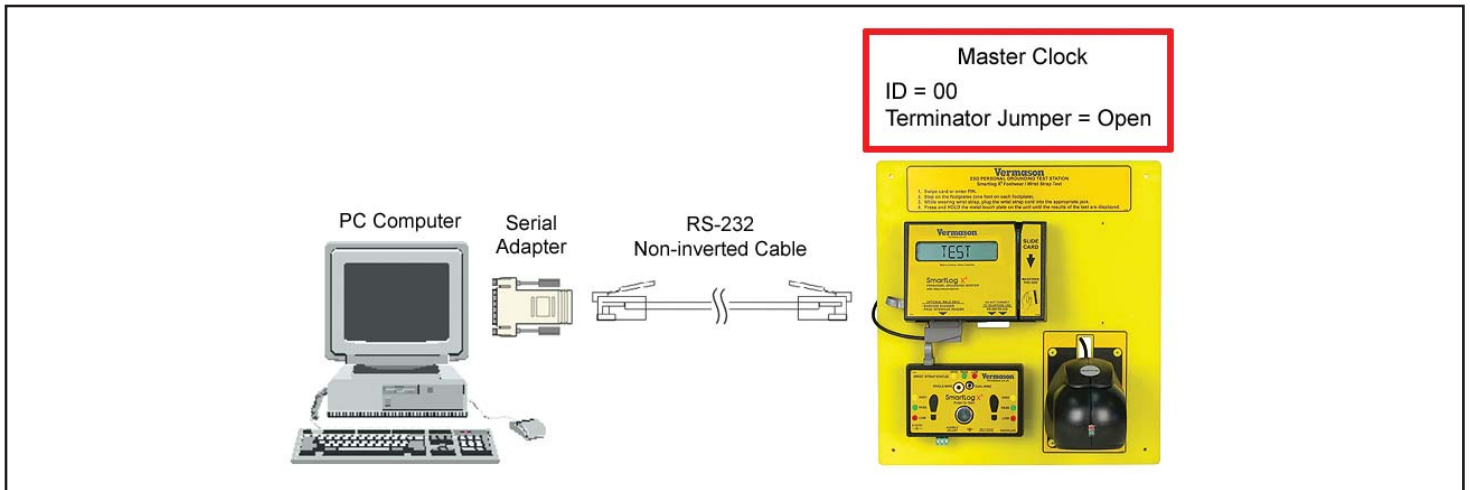

Figure 4. Connecting one SmartLog X³™
(See Figure 4)
- a. Verify that the cable from the computer to the SmartLog X³™ is properly connected. The cable should be flat non-inverted (See Figure 4).
- e. Make sure that the SmartLog X³™ LED's are blinking during data transmission. If they are not blinking or remain on all the time, please contact Vermason technical support at 0044 (0) 1462 672005 for further support.